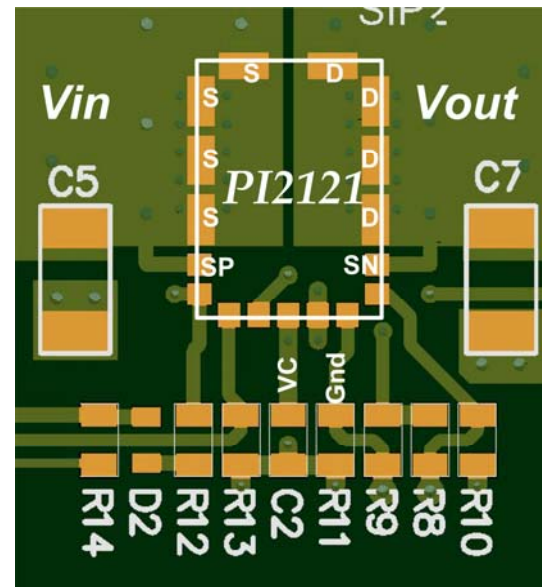

Figure 24: PI2121 layout recommendation
Use the following general guidelines when designing printed circuit boards. An example of the typical land pattern for the PI2121 is shown in Figure 24:
- Connect the SP pin to the S pins and connect the SN pin to D pins as shown in Figure 24.
- The VC bypass capacitor should be located as close as possible to the VC and GND pins. Place the PI2121 and bypass capacitor on the same layer of the board. The VC pin and C_{VC} (shown as C2 in Figure 24) PCB trace should not contain any vias or connect to the ground plane close to the GND pin.
will produce a high voltage across the MOSFET. If it is not possible to connect the power source and S pins with a very short trace or common point, connect a capacitor (shown as C5 in figure 24), recommended value $1\mu\text{F}$, close to the S pins and return (ground). Also for the same reason use C7 in figure 24 at the output.